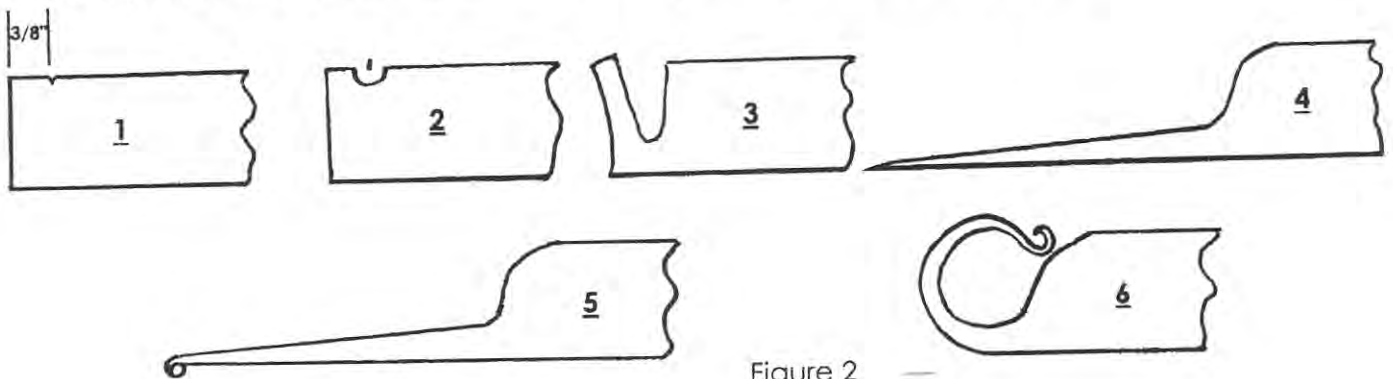

Figure 2
Process: Make the body of the tool by cutting 4" off of the 52" piece of $3/16'' \times 1\ 1/4''$ stock. Set the 4" piece aside. Take the 48" piece, measure back from one end $3/8''$ and mark the edge with a chisel. (See step 1 of Figure 2, the 6 step Figure 2, below). Heat the piece to yellow and, with a $1/4''$ diameter fuller, fuller down from the edge about $7/8''$ deep (Figure 2, steps 2 and 3). Reheat and draw this fullered portion out to about $4\ 1/2''$ long, tapering from about $1/4''$ at the base of the taper to a point (Figure 2, step 4).
-Now, reheat an inch or so of the tapered end (carefully; it will burn easily) and turn a $1/4''$ scroll as shown in Figure 2, step 5. Reheat the whole tapered end, quench the little scroll quickly (so it won't deform when hit with the hammer, and turn the scroll end as shown in Figure 2, step 6. this scroll makes a handy "hole" to use in hanging your tenon measuring tool.